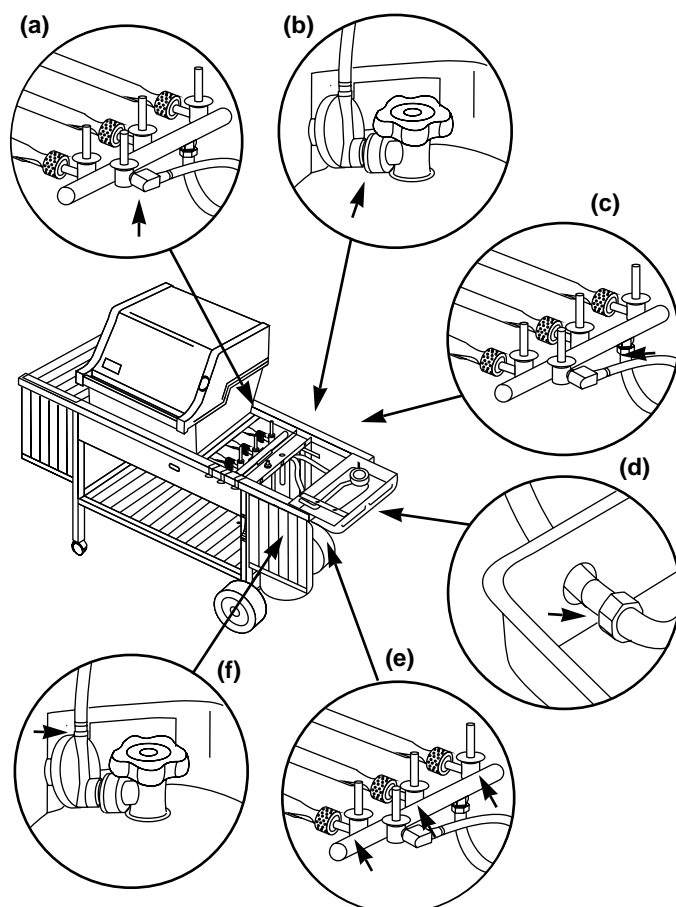

Figure 14
- a) Hose to manifold connections. Figure 14 (a).
- b) Regulator to tank connection. Figure 14 (b).
- c) Manifold to side burner hose connection. Figure 14 (c).
- d) Side burner hose to side burner connection. Figure 14 (d).
- e) Valves to manifold connection. Figure 14 (e).
- f) Hose to regulator connection. Figure 14 (f).